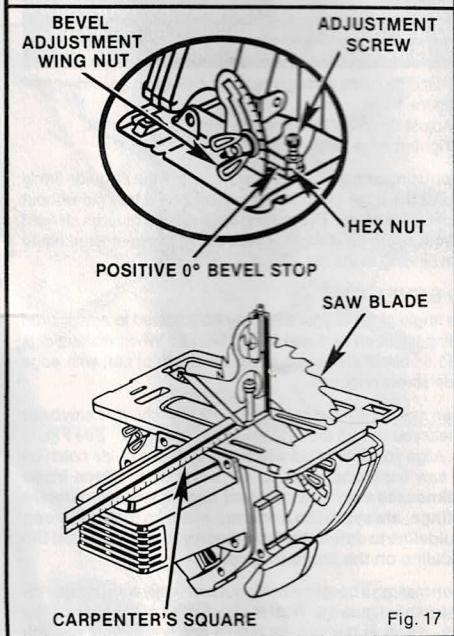

Fig. 17
See Figure 17.
2. Place your saw in an upside down position on workbench. See Figure 17.